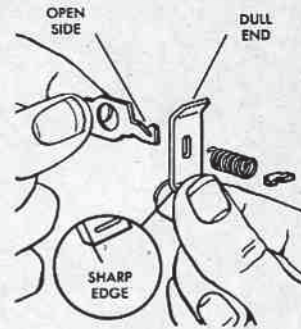

Fig. HL229 — If Fairbanks-Morse starter friction shoe assembly is disassembled, be sure to reassemble as shown.
Fig. HL227 — Fairbanks-Morse counter-clockwise rotation starter similar to that used on model ZIP. Refer to Fig. HL229, for assembly of friction shoe assembly (8) if unit has been disassembled. Note direction of sharp edge on shoes when reassembling starter. Refer to Fig. HL228 for legend.
Fig. HL228 — Exploded view of Fairbanks-Morse starter used on WIZ series and model Super 77. Fig. HL229 shows proper method of assembling friction shoe assembly if it has been disassembled for some reason; individual parts of friction shoe assembly are not available. Note direction for sharp edges of shoes when reassembling starter.